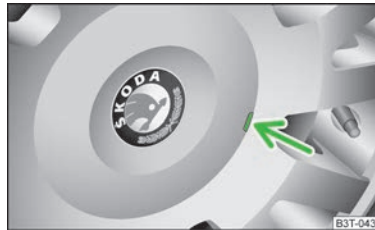

Fig. 144
- Carefully remove the wheel trim cap using the wire clamp from the vehicle tool kit » Fig. 144.